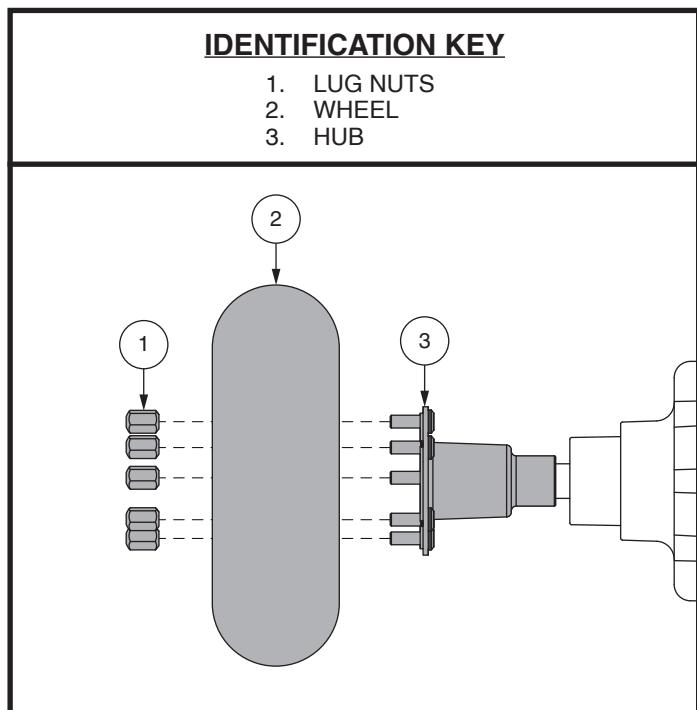

Figure 20. Wheel Replacement
4. Remove the lug nuts from the hub. See figure 20.